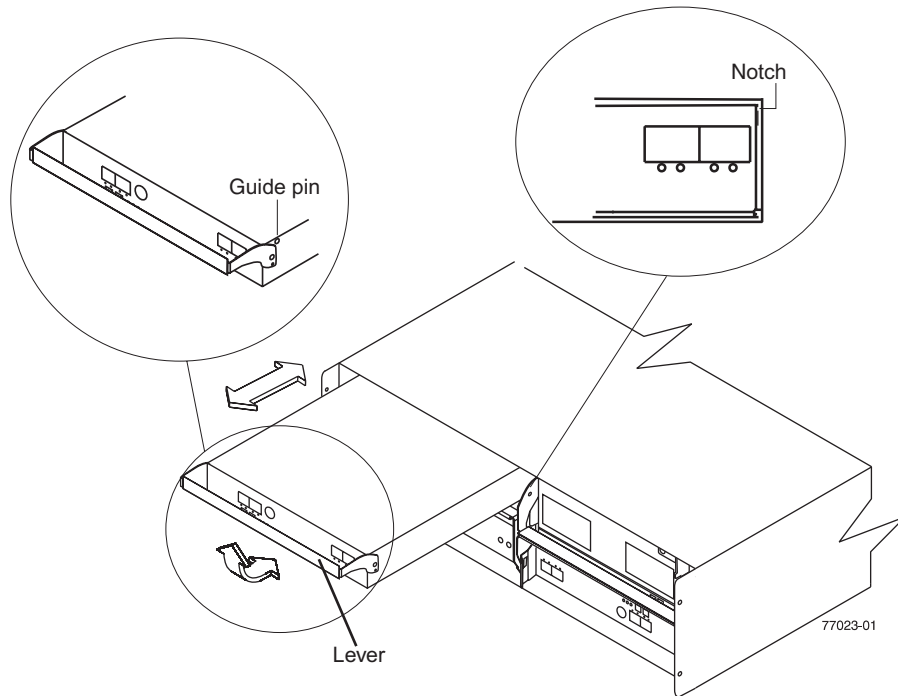

Figure 37. Removing and replacing an Environmental Service Module (ESM)
8. While squeezing the latch, pull the lever open 90° (so that the lever is horizontal). Pull the lever away from the chassis to remove the ESM from the EXP395 midplane, as shown in Figure 37.
- b. Slowly pull the lever away from the EXP395 chassis to remove the ESM from the ESM bay, as shown in Figure 37 on page 84. (Remove the ESM from the chassis and place it on an electrostatic discharge (ESD) protected surface.)